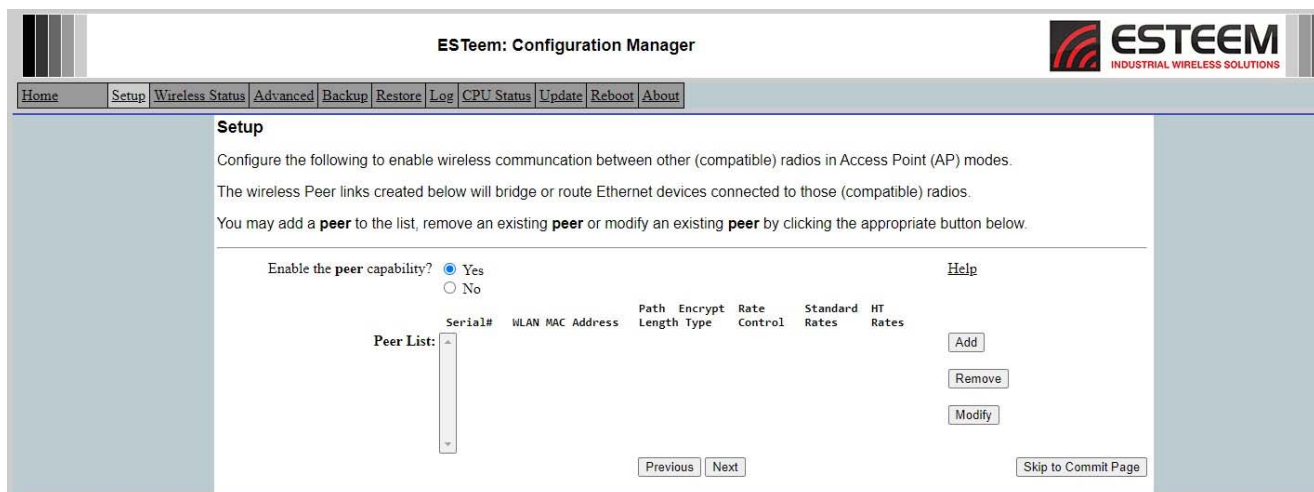

Figure 20: Peer Configuration
- The next screen to be displayed will be the Peer Configuration (Figure 20). Most applications with the Horizon radios will be between fixed (non-mobile) stations configured as Access Points (Bridge, Router or Firewall). The peer configuration will create a wireless link between Horizon radios configured as AP’s. This example application is to create a wireless Ethernet bridge between two (2) Horizon 2.4 GHz radios both configured in AP Bridge mode. Each radio will be a “peer” of the other. The peer capability must be enabled and for this example application, the Main Office will enter the Remote Office’s Horizon as a peer link. Press the “Add” button on the right of the screen to proceed.